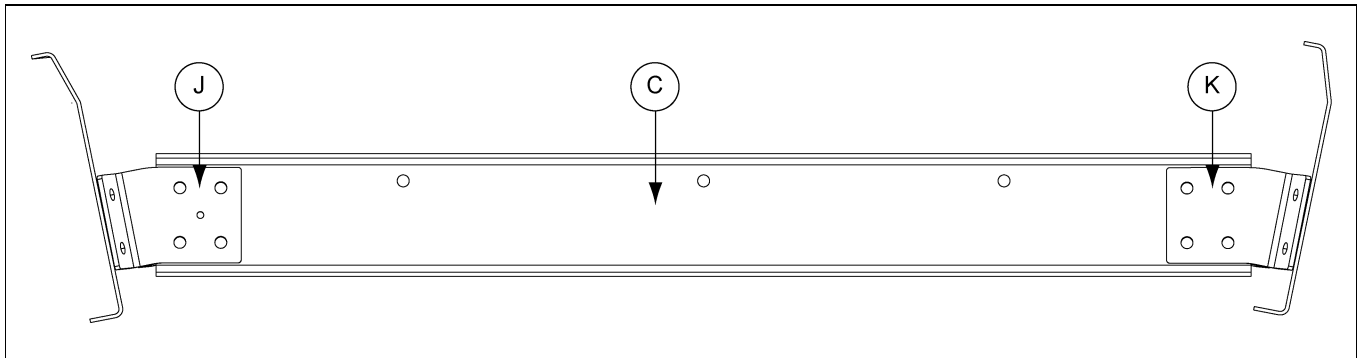

Figure 4M Purlin Hole Orientation
1. Attach an upper left purlin clip (E) and upper right purlin clip (D) to the roof rafter (B) and install two (2) flange bolts (F) and two (2) flange nuts (G).
2. Attach an upper left purlin clip (E) and an upper right purlin clip (D) to the roof rafter (A) and install two (2) flange bolts (F) and two (2) flange nuts (G).
3. Position the purlin (C) to the upper right purlin clip (D) and the upper left purlin clip (E) located between the roof rafters (A and B).
NOTE: Ensure that the orientation of the purlin is correct of the three (3) holes on the purlin as shown in Figure 4M.
4. Attach a lower left purlin clip (J) and a lower right purlin clip (K) to the purlin and install eight (8) flange bolts (H) and eight (8) flange nuts (I) securing the purlin to the purlin clips.
5. After all purlins (C) are installed, tighten all hardware to the recommended torque specifications. See bolt torque specifications on Page 14.